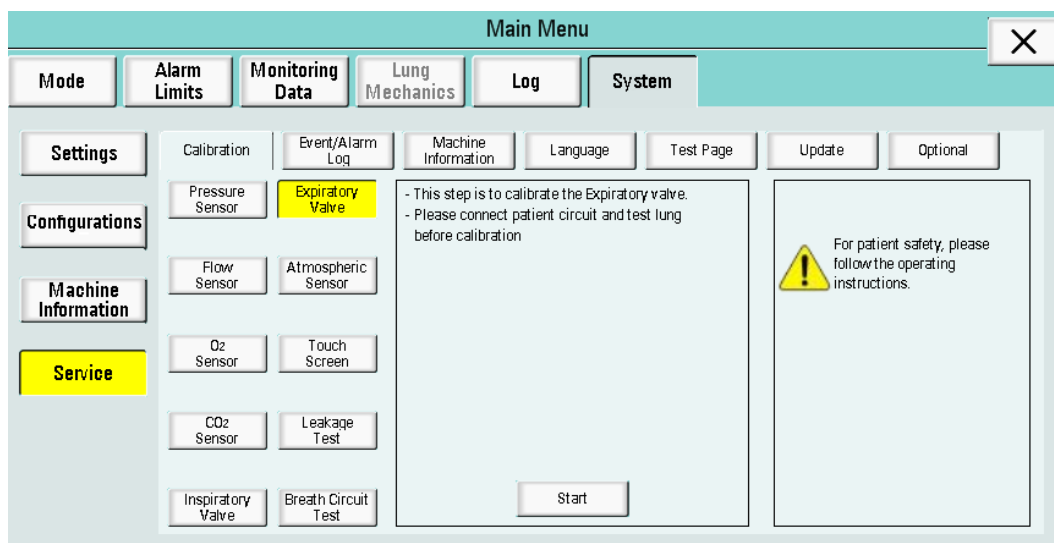

Figure 6-68
(6) Expiratory Valve Calibration: Click “Expiratory Valve” to enter the interface. A message displayed: “This step is to calibrate the expiratory valve. Please connect patient circuit and test lung before calibration”, as shown in Figure 6-68.